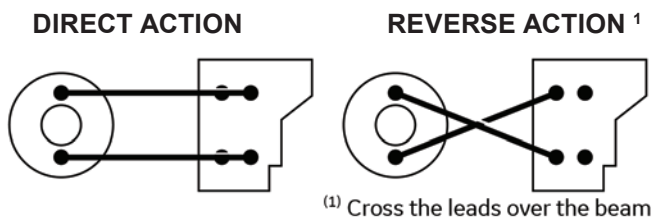

Figure 1 — Coil leads position
The diagram Figure 1 shows the position of the coil leads and the connecting terminals utilized on the terminal board for each action of the device.
- Reverse the positions of the coil leads to the terminal board (see diagram Figure 1).